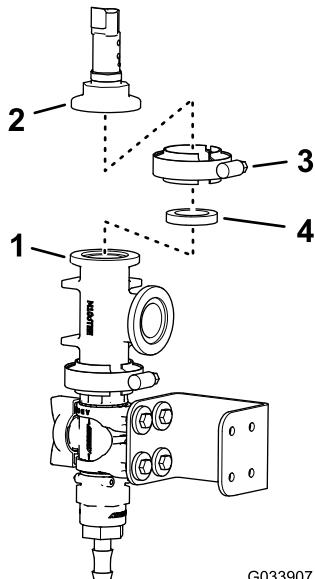

Figure 17
7. Assemble the pressure transducer to the T-fitting with a gasket and flange clamp, and tighten the clamp by hand (Figure 17).